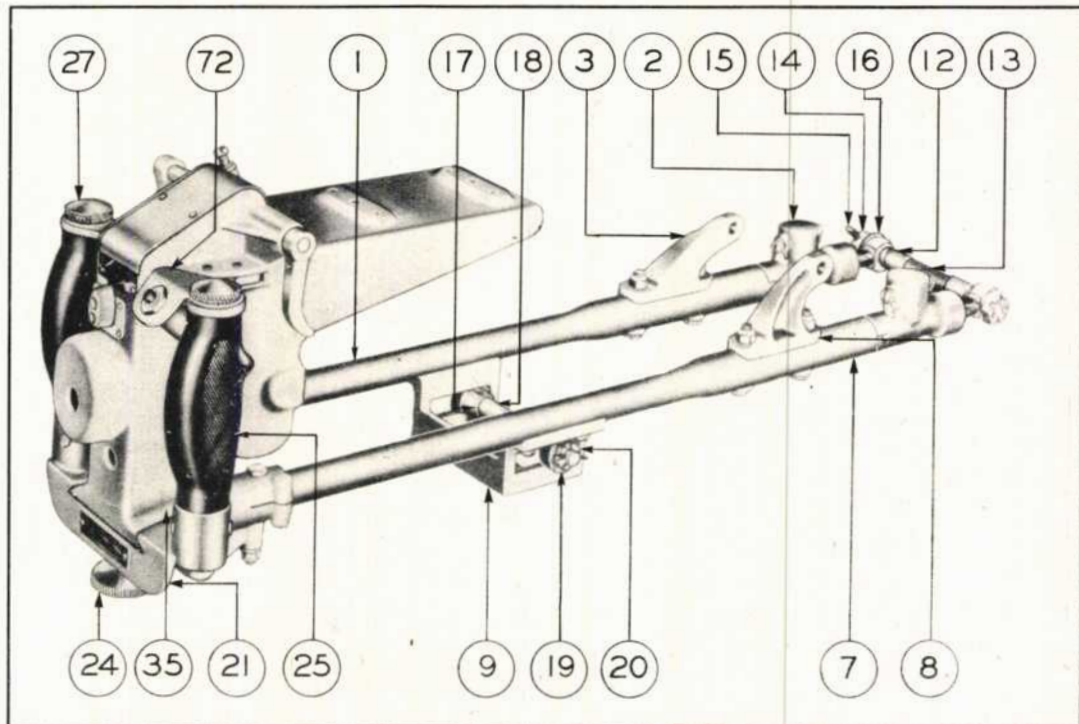

Figure 2—Type E-11 Single Caliber .50 Adapter Less Guns
(1) THE TYPE E-11. (See figure 2.)—The adapter frame is made up of two parallel bearer assemblies (1) and (7) with the shock unit assemblies (2) mounted in their forward ends. The rear support assembly (21) forms the rear cross member of the adapter; a rear trunnion support (9) is bolted to the bearer assemblies; and the front trunnion bolt (13), assembled in the eyes of the shock units, forms the front cross member of the assembly. Yoke mounts (3) and (8) are bolted to the bearer assemblies.
(1) GENERAL.—The back guard assembly may be readily removed from either adapter by loosening the back guard release knob (24, figure 2) in the rear support, and the handgrip release screws in the handgrips, thus providing easy access to the gun for servicing.
- a. Remove back guard (35, figure 2) by loosening back guard release knob (24) in rear support assembly (21) and handgrip release screws (27) in handgrip and pin assembly (25). After loosening handgrip release screws, remove microphone switch bracket assembly (72) holding the microphone switch assembly in place.
- b. Remove rear trunnion bolt (18, figure 2) nut (19) and cotter (20).
- c. Remove front trunnion bolt (13, figure 2) nut (14), cotter (15), washer (16), and front trunnion spacers (12).